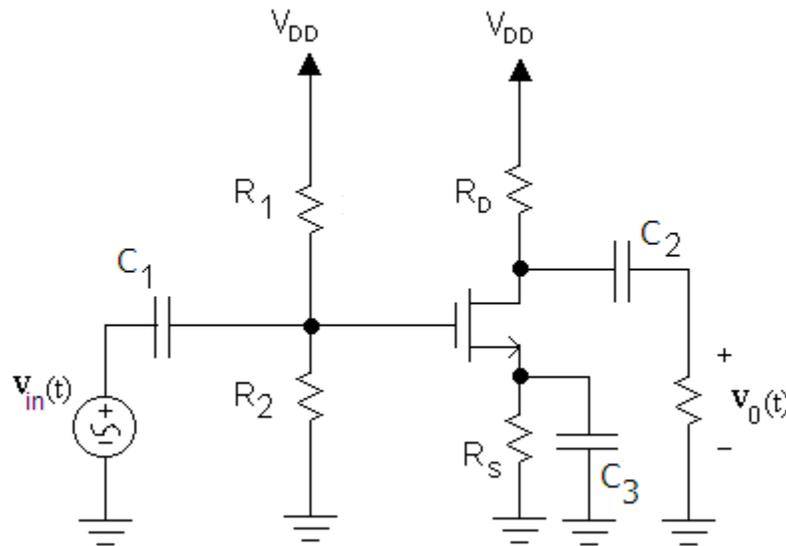

Figure 69: Common Source Amplifier
The circuit shown in Figure 69 uses capacitive coupling and the four resistor bias network and is known as a Common Source (CS) amplifier configuration. The term “common source” is used because the source terminal is connected to AC ground as we shall see shortly.